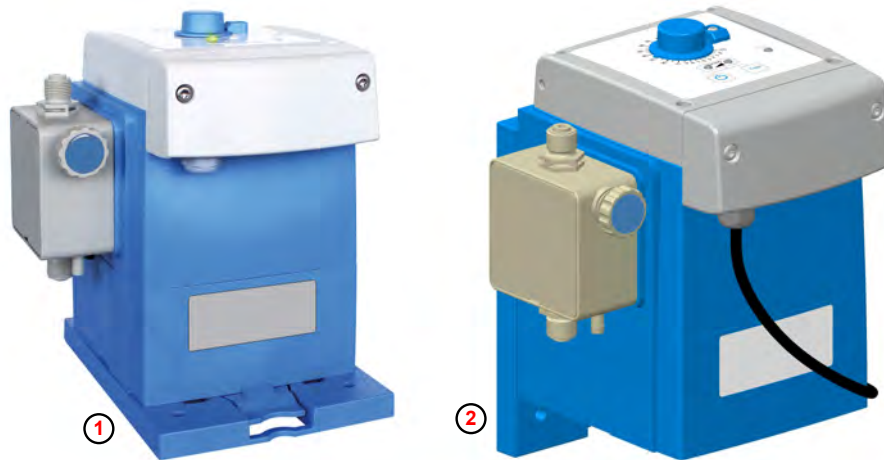

Fig. 3: Countertop and wall-mounting
① Countertop-mounting
② Wall mounting
The pump can be mounted both upright (e.g. on a bracket or on the metering container ( Fig. 3 , ① ), or on the wall ② ).